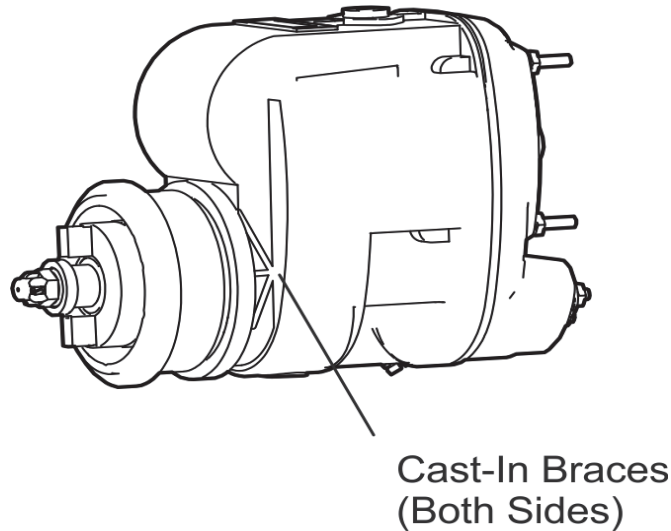

Figure 7-8. Required Housing Cast-In Features
1. Discard all 4 and 6 cylinder housings (72) that do not include three cast-in braces supporting the flange, as shown in Figure 7-8.